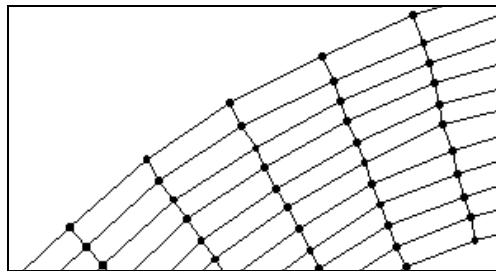

Figure 5 The mesh section after merging triangles
4. Repeat the above split/merge process until there are no more triangles across the section. This part of the mesh should look like Figure 5.